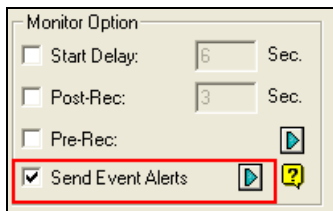

Figure 1-66
3. To define the alert event, select **Send Event Alerts** in the **Monitor Option** section, click the Arrow button and select events for which e-mail alerts will be sent. See Figure 1-66.